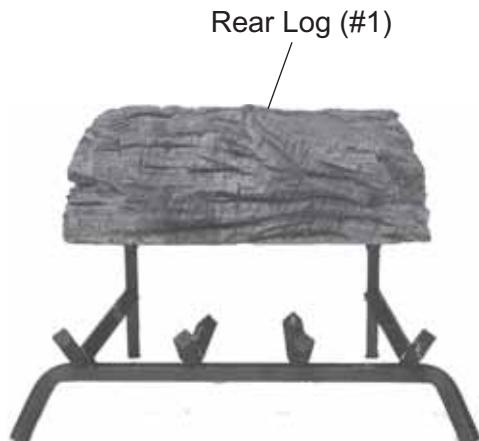

Figure 13 - Centering Rear Log (#1) on Grate Bars
2. Center rear log #1 on grate bars and flush with rear of the grate. *See Figure 13.*